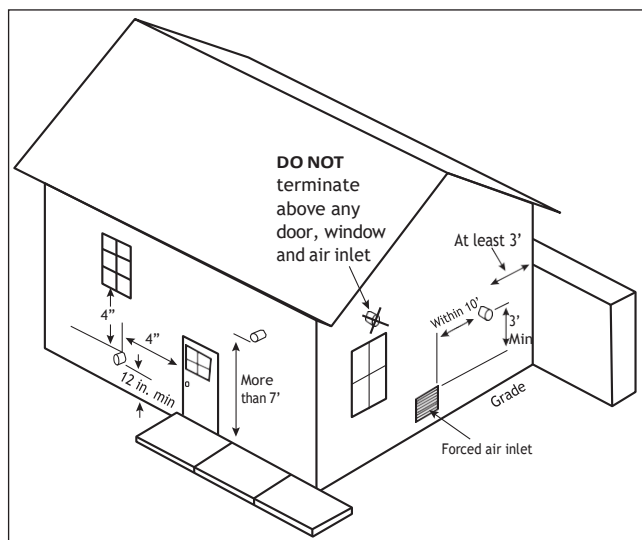

Fig. 16 - Termination Clearances of Category IV System
5. The vent termination must also maintain the following clearances; as shown in Fig. 16 on page 25.
5. The vent termination must also maintain the following clearances; as shown in *Fig. 16 on page 25*.